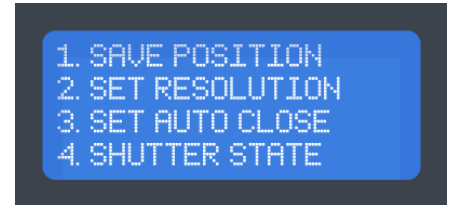

Fig. 14
3. Press the "DECREASE STEP / MENU DOWN" (  ) button once to navigate to the "2. SET RESOLUTION" setting submenu (Fig. 14).